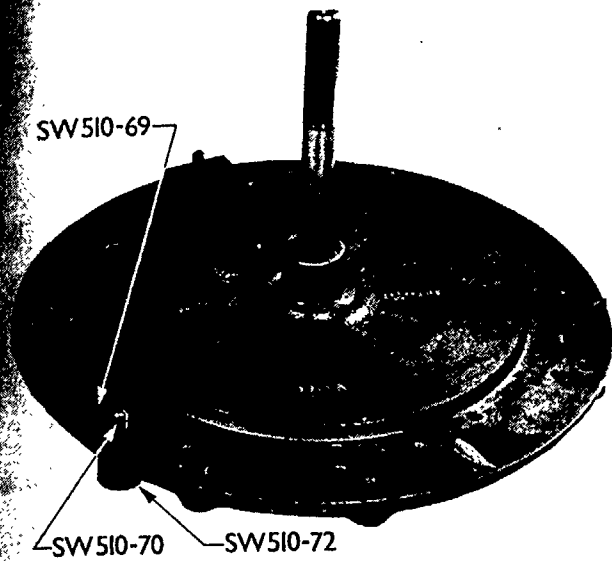

Figure 33
3. Install the three Bolts, SW510-70, with three Washers, SW510-72, through the bottom of the fixture base and position the Spacer Clamps, SW510-69, with the flat side downward, as shown in Figure 33.
1. Install the three Bolts, SW510-70, with Washer SW510-72, through the bottom of the Fixture Base, SW510-60, and position the Spacer Clamps, SW510-69, with the flat side downward as shown in Figure 33.